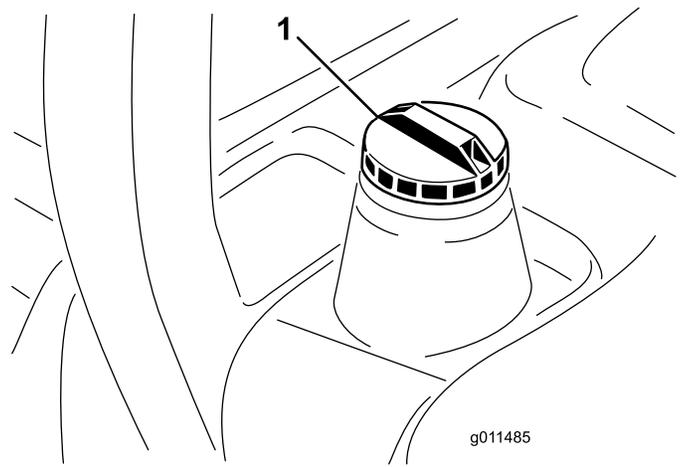

Figure 49
3. Remove the cap from the fuel tank (Figure 49).